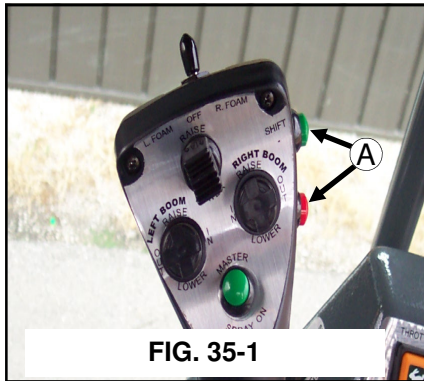

FIG. 35-2
2. Increase the engine one bump to gain RPM of 1500 with the throttle switch (fig. 35-2). More RPM will be gained as you move the hydrostatic lever forward.